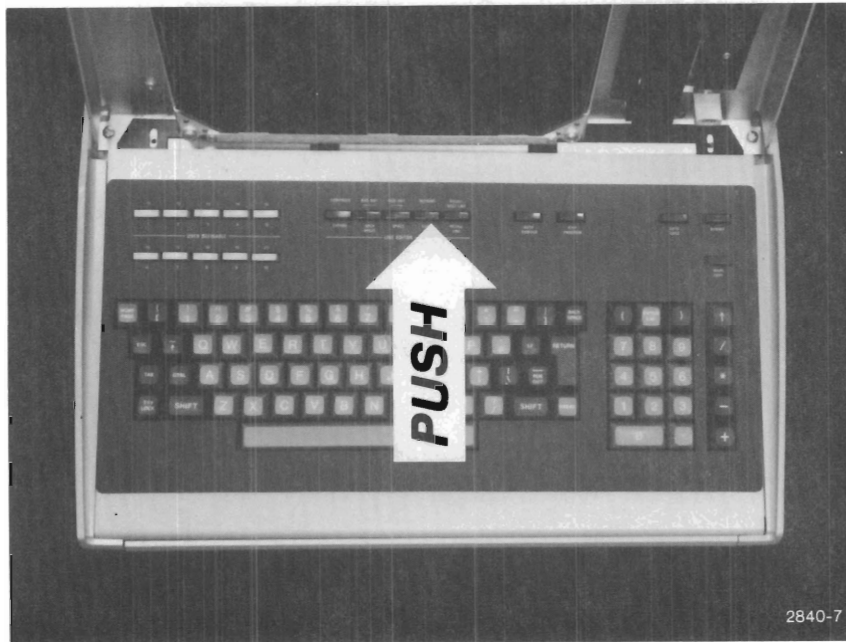

Figure 3-13. Keyboard Removal.
4. Push the keyboard towards the display as shown in Figure 3-13. Push it towards the instrument until the bottom edge of the keyboard comes free from its retaining groove. Lift the keyboard out of the instrument.